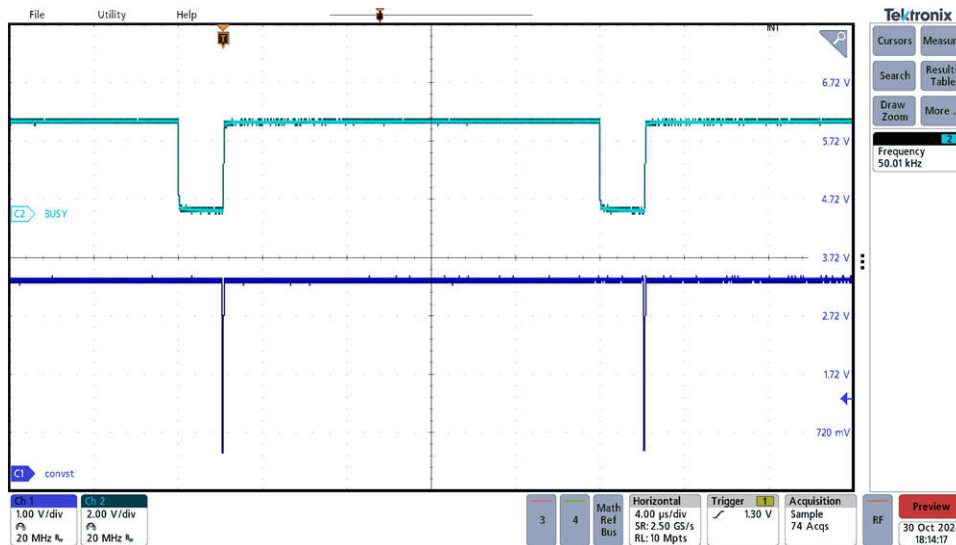

Figure 3-13. ADS8588S CONVST and BUSY Signal
4. Check the **BUSY** signal of the external ADC if the frequency is 50kHz using an oscilloscope. Figure 3-13 shows the ADS8588S **BUSY** and **CONVST** signals when the MCU is running.